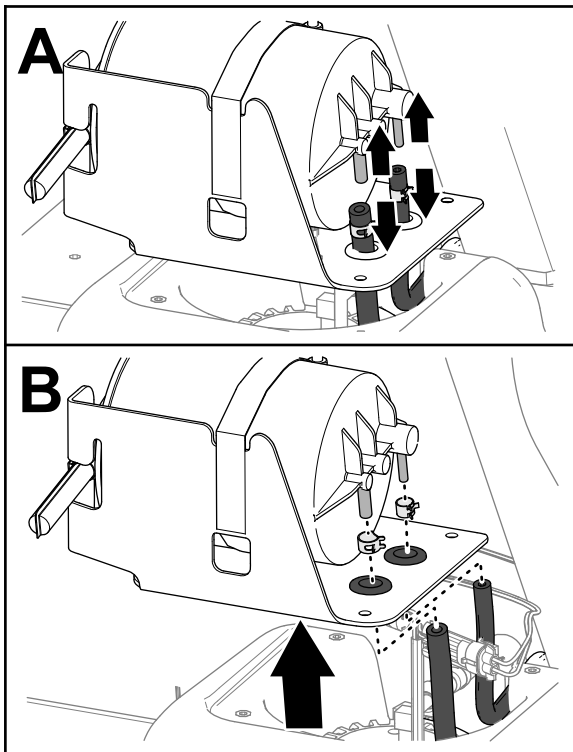

Figure 118
4. Separate the hoses from the fittings (Figure 118).
5. Remove the hose clamps from the hoses (Figure 118).
6. Remove the carbon canister from the fuel tank (Figure 118).